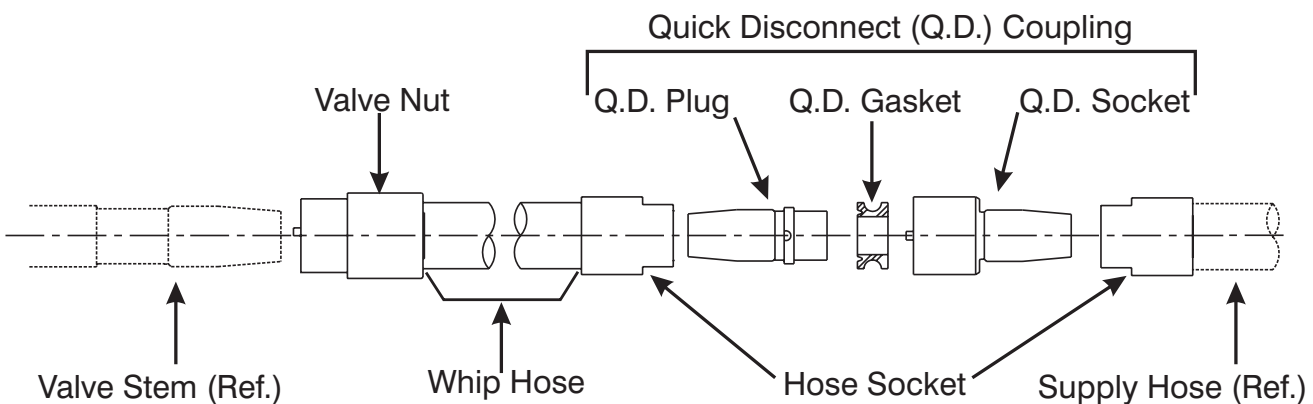

Figure 11-5. Whip Hose Components and Quick Disconnect Fittings.
Refer to Figure 11-5 and determine which components must be replaced and/or disassembled. Disassemble the Whip Hose components only as far as required for repair or
6. To remove the Valve Nut or either of the Hose Sockets from their hoses (shown in Figure 11-5), complete the following procedure: